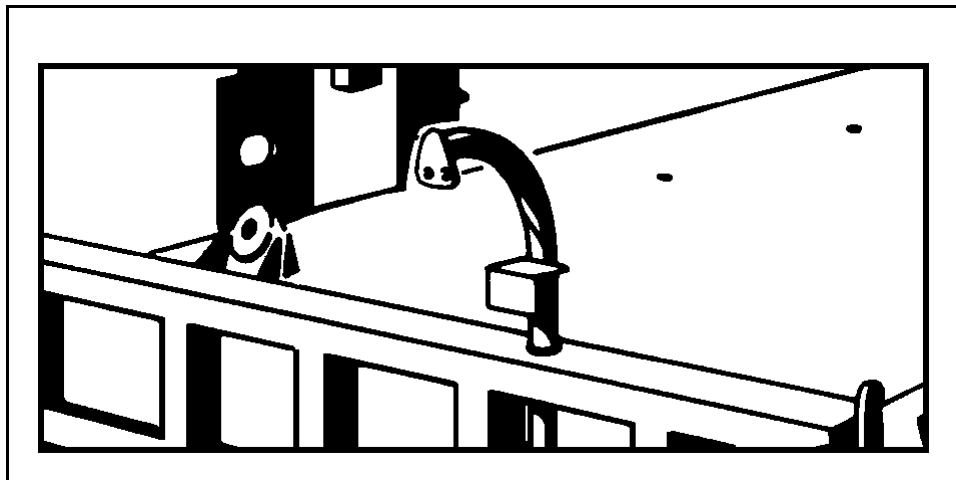

Figure 17-6. Portable Block Davit
- **Step 4.** The portable block davit (Figure 17-6) is installed in the pipe socket in the stern gate.